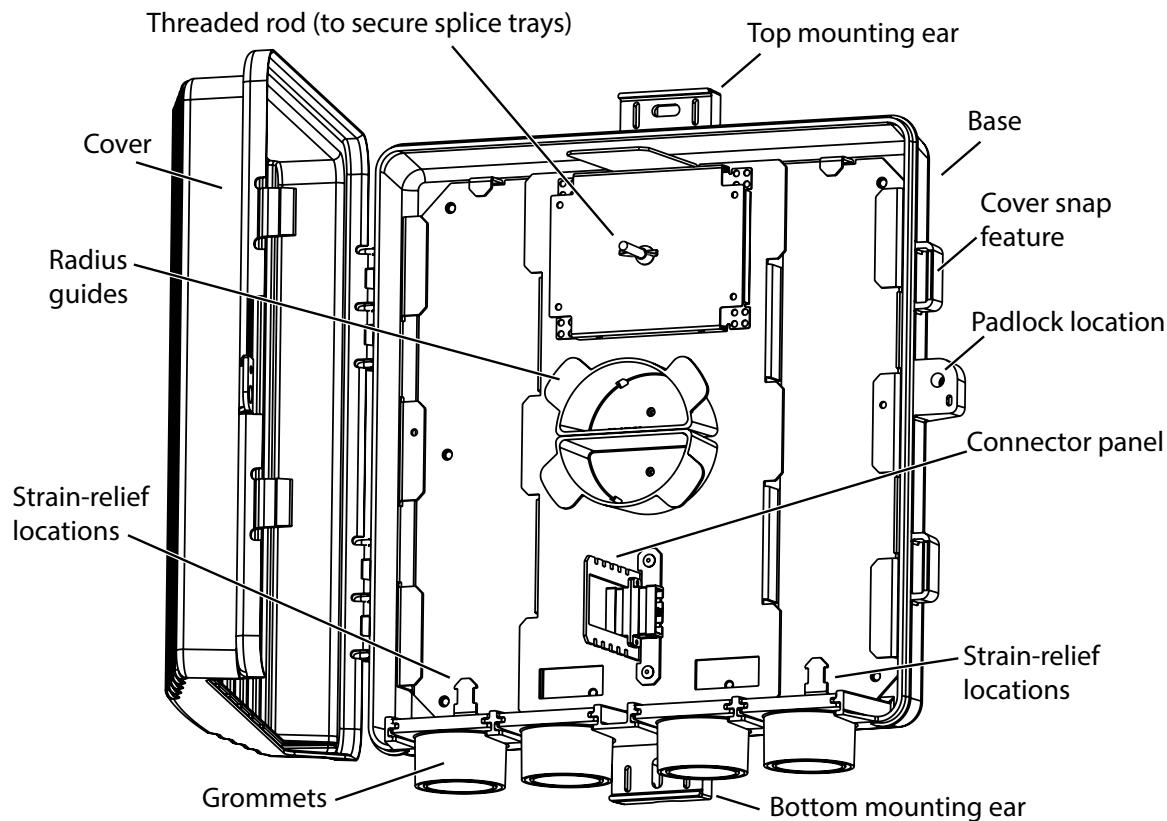

Figure 1
- The fiber NID (Figure 1) is an outdoor demarcation point between a service provider's feeder cable and a subscriber's distribution cable for FTTX applications.
Step 4: Close door of unit and fasten securely. If desired, a padlock can be installed through the padlock hole shown in Figure 1.